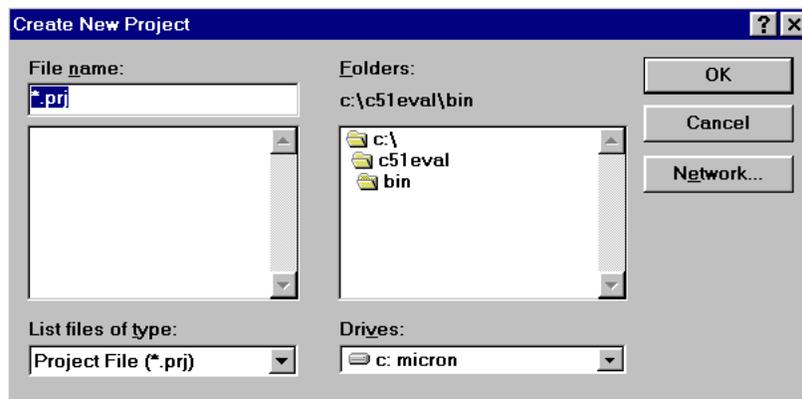

FIGURE 3a
1. Open the Project menu and choose New Project. The window shown in Figure 3a appears.